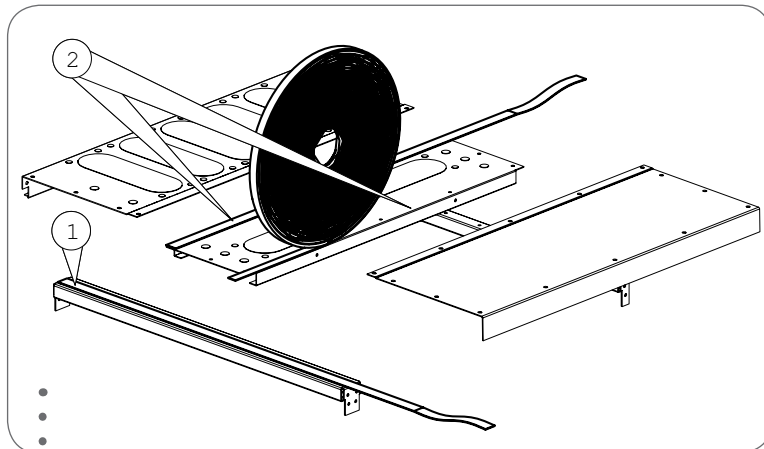

Fig. 3.2. Sealing the roof.
After erecting and sealing the frame, sealing strips are installed to the roof of the cell centre. The roof can be sealed already in the assembly stage (2.3) or when the frame has been erected. The sealing strip is first installed to the intermediate and end profiles (1) and then to both sides of the middle roof (2). In cells with 385 mm nominal depth, the middle roof is replaced by the back roof, on which sealing strip is attached to the front side, Fig. 3.2.